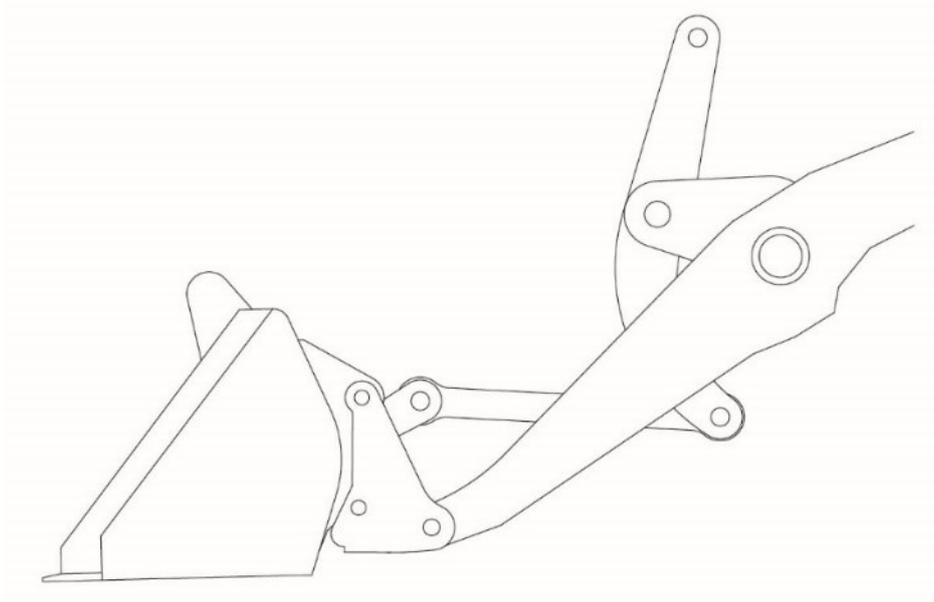

Figure 5-50 Pushing operation
Step 1: Operate the handle to make the bucket is flat on the ground. The bucket posture is as shown in Figure 5-50, and step on the accelerator pedal to make the loader forward;